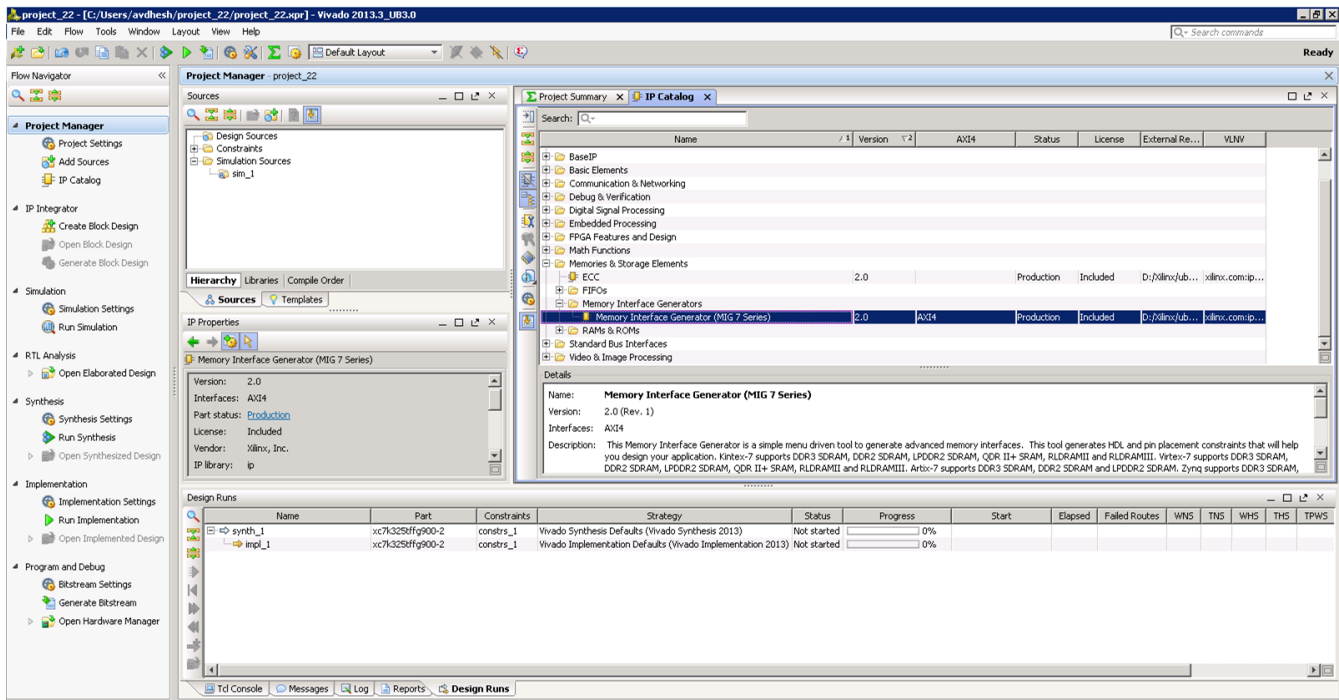

Figure 1-12: IP Catalog Window – Memory Interface Generator
11. Click **IP Catalog** on the **Project Manager** window to open the IP catalog window. The Vivado IP catalog window appears on the right side panel (see Figure 1-12, highlighted in a red circle).
12. The MIG tool exists in the **Memories & Storage Elements > Memory Interface Generators** section of the IP catalog window (Figure 1-12) or you can search from the Search tool bar for the string "MIG."